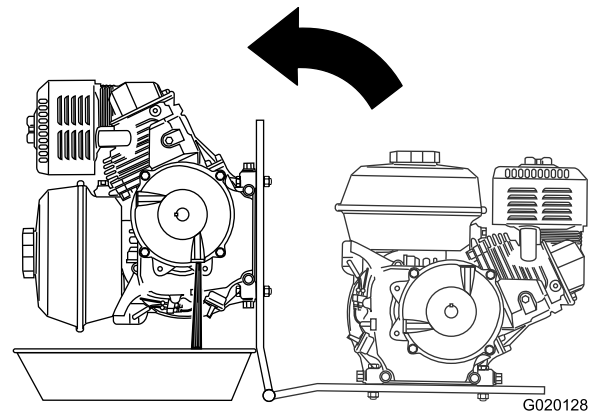

Figure 60
5. Align a drain pan to the hinge of the engine deck (Figure 60).
6. Rotate the engine on the hinge side of the engine deck, and drain the oil from the reduction case (Figure 60).